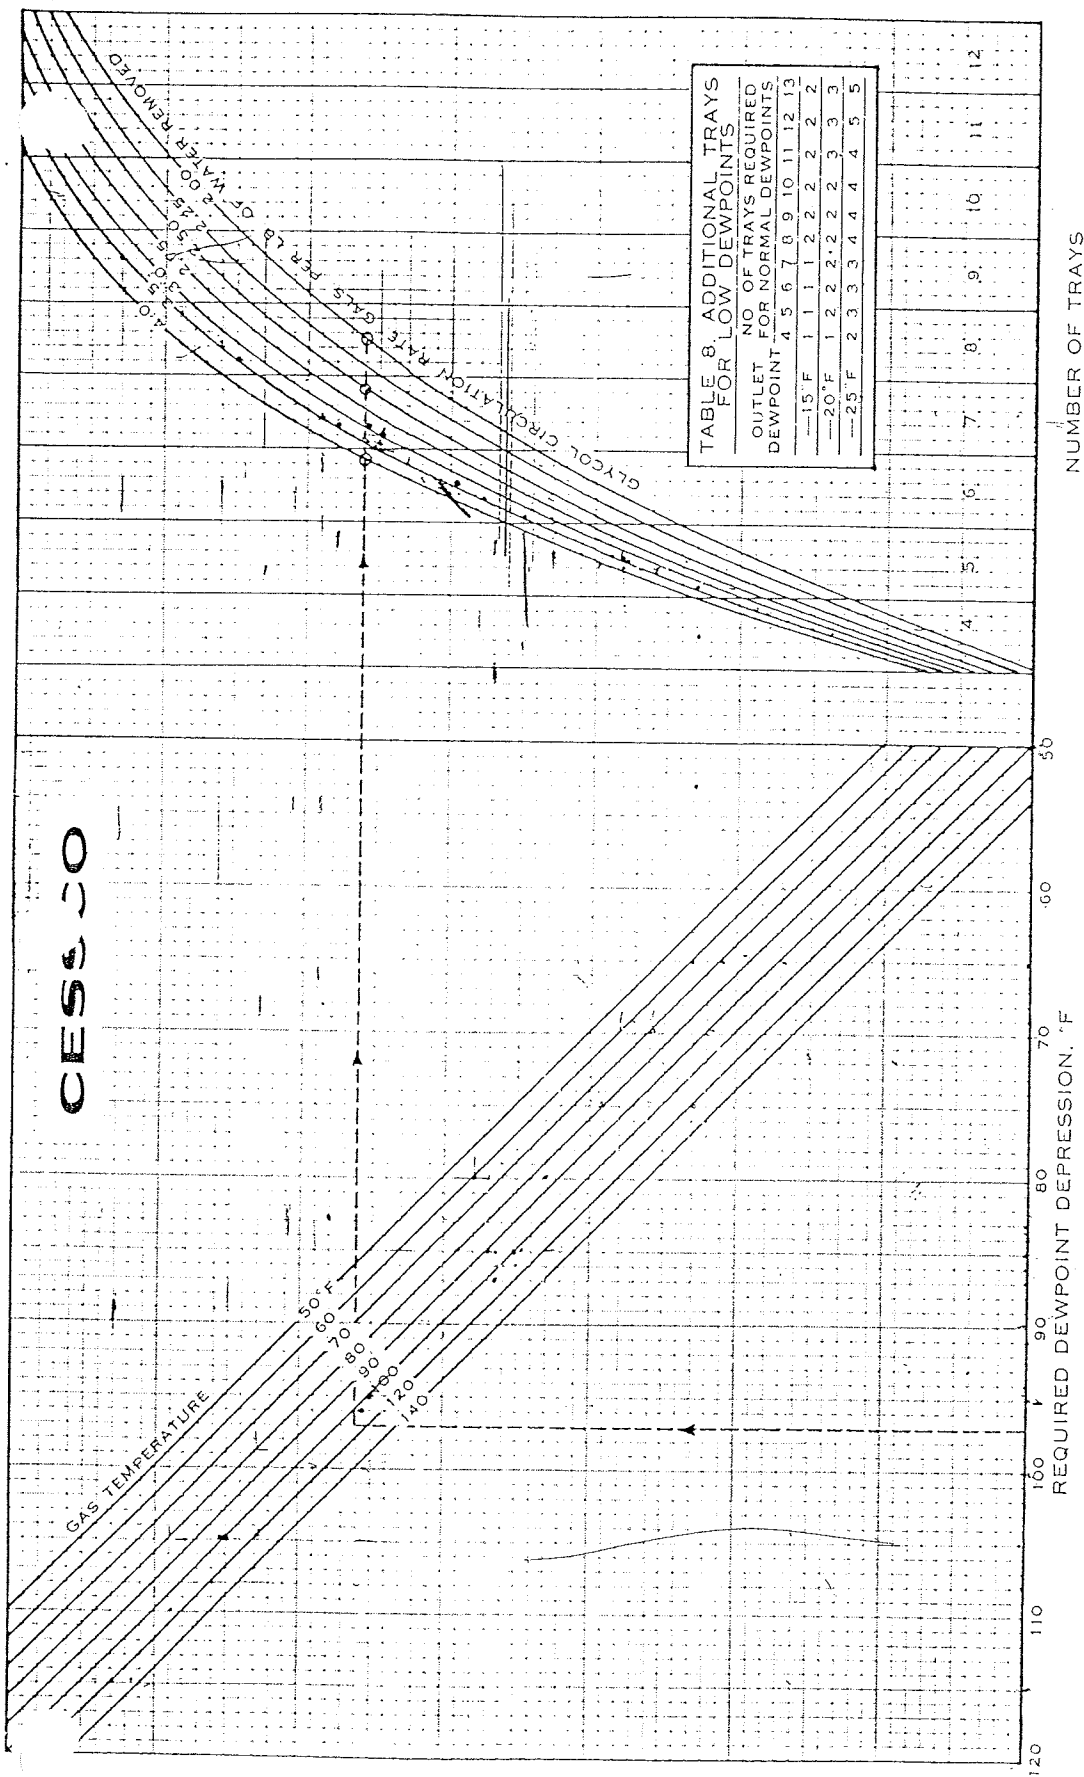

FIG. 22. GLYCOL CIRCULATION RATE VS. NO. OF TRAYS For Dehydrators (based on 99.8% triethylene glycol at top tray inlet).
Step 2. Refer to Fig. 22 Knowing the required dewpoint depression, determine the choices of glycol circulation rates vs. number of absorber trays. (If an outlet dewpoint of -15°F or below is required, add the additional trays indicated by Table 8.)